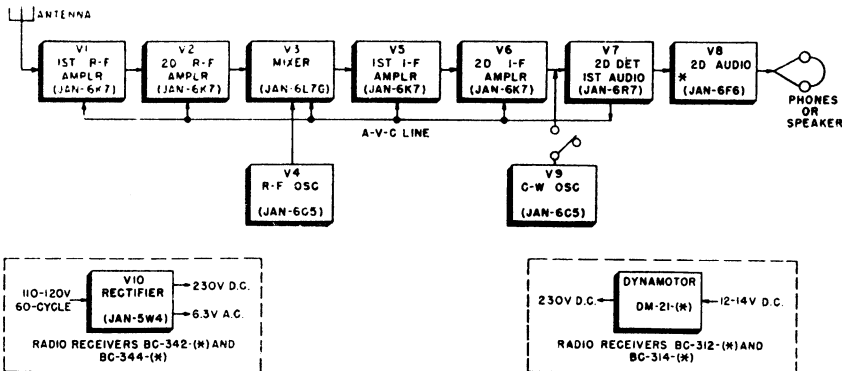

Figure 17. Receiver simplified block diagram.
a. RADIO RECEIVERS BC-312-(*), BC-342-(*), BC-314-(*), and BC-344-(*) are similar in design with the exception of their frequency coverage and supply voltage. A simplified block diagram of the receivers is given in figure 17. The received signal from the antenna is applied to the first r-f amplifier stage, V1, where it is amplified before being fed to the second r-f amplifier stage, V2. The two r-f amplifier stages each use a Tube JAN-6K7 high-gain pentode to provide a high degree of selectivity and sensitivity while rejecting interfering signals at intermediate or image frequencies. The amplified r-f signal is then applied to the mixer or converter stage, V4. The r-f oscillator signal beats against the
d. Two sources of plate voltage are provided for the receiver circuits. (See fig. 17.) Radio Receivers BC-312-(*) and BC-314-(*) are designed for operation from a battery source and are equipped with a dynamotor to convert the 12- to 14-volt battery supply into 230 volts direct current. Radio Receivers BC-342-(*) and BC-344-(*) are designed for operation from a 110- to 120-volt, a-c supply and are equipped with a vacuum tube rectifier, V10, to convert the a-c supply voltage into direct current for operation of the receiver circuits.